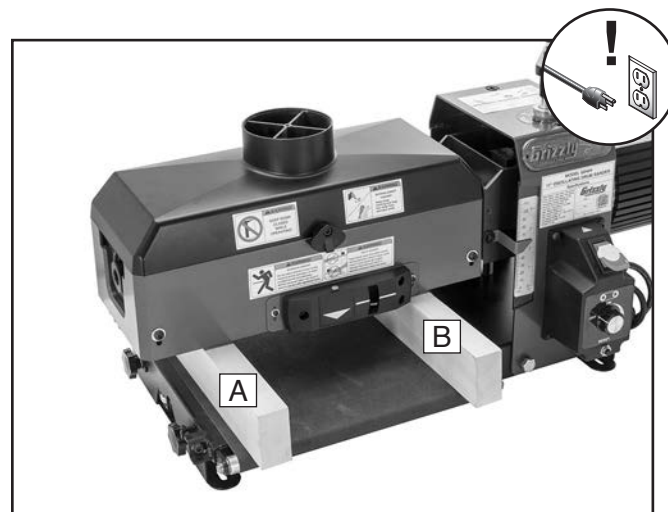

Figure 45. Example of gauge blocks placed under drum.
3. Place gauge blocks under drum (see **Figure 45**), then lower drum until gauge blocks just touch drum.
5. Starting at board A (see **Figure 45**), find largest size feeler gauge that can pass between drum and gauge block. Feeler gauge should slide with moderate resistance, without forcing drum to roll.